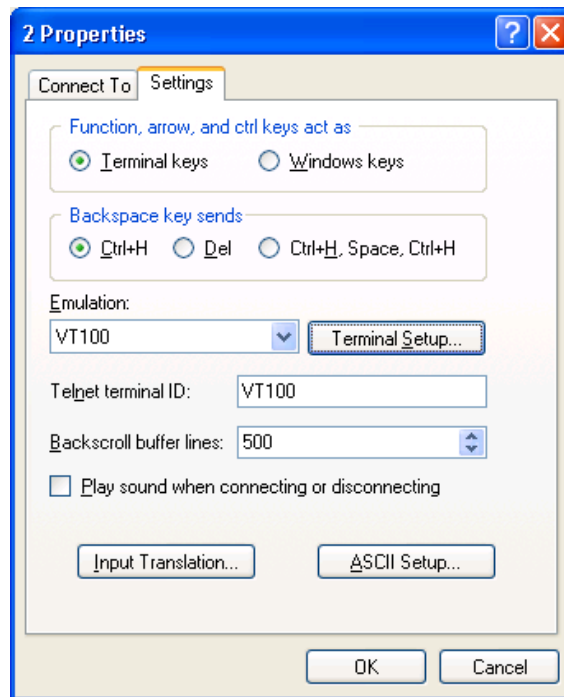

FIGURE 4-5 THE SETTING OF THE TERMINAL EMULATION
Step 5: In the HyperTerminal attribute dialog box, select **Property** to enter the property window. Click **Setting** in the property window to enter the window of setting the property as shown in Figure 4-5. Select the terminal emulation as VT100 and then click **OK**.